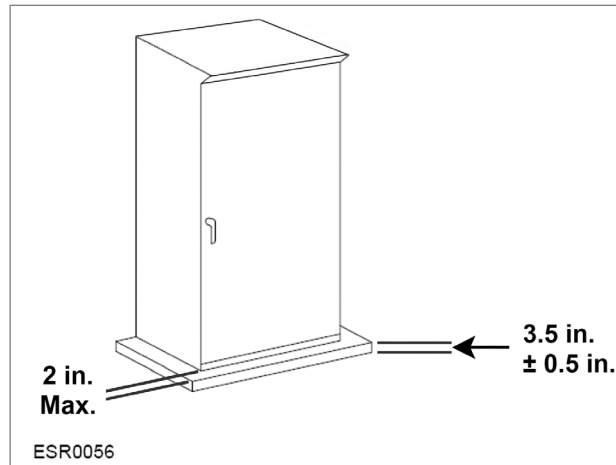

Figure 92: Concrete Pad in Front of Cabinet (Indoor Metering)
- When installing indoor switchboard metering, the customer must install a concrete pad with no more than 2 inches of concrete in front of any cabinet that contains PGE equipment. See **Figure 92** for details.